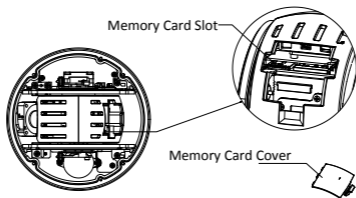
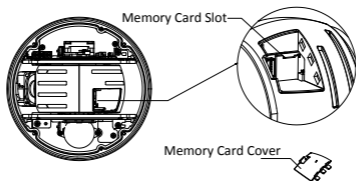

Figure 2-13 For 20× Camera Module
Figure 2-14 For 4x Camera Module
3. Open the memory card cover and insert the memory card into the card slot as shown in Figure 2-13 and Figure 2-14.